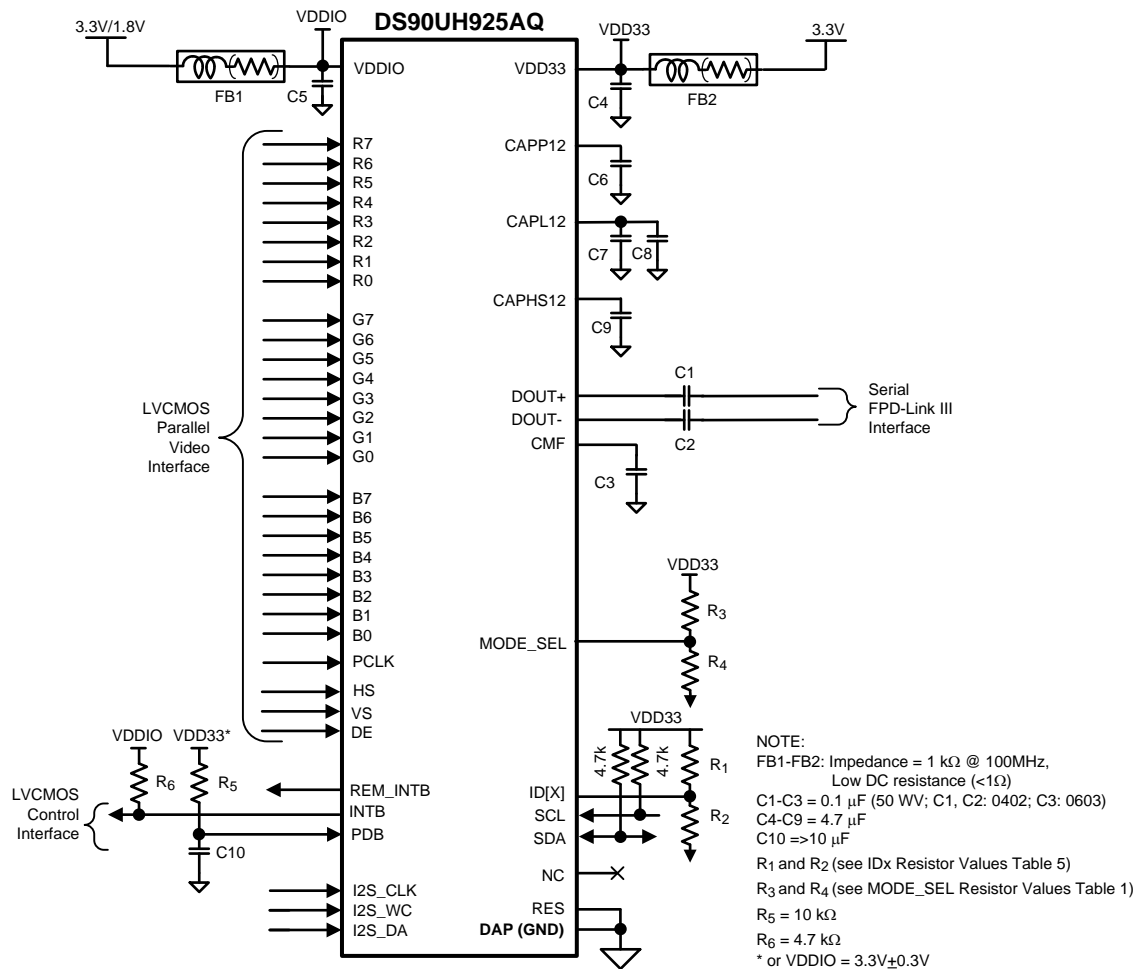

Figure 25. Typical Connection Diagram
Figure 25 shows a typical application of the DS90UH925AQ serializer for an 85 MHz 24-bit Color Display Application. The CML outputs must have an external 0.1 μ F AC coupling capacitor on the high speed serial lines. The serializer has an internal termination. Bypass capacitors are placed near the power supply pins. At a minimum, six (6) 4.7 μ F capacitors (and two (2) additional 1 μ F capacitors) should be used for local device bypassing. Ferrite beads are placed on the two (2) VDDs (V_{DD33} and V_{DDIO}) for effective noise suppression. The interface to the graphics source is with 3.3 V LVCMOS levels, thus the V_{DDIO} pin is connected to the 3.3 V rail. A RC delay is placed on the PDB signal to delay the enabling of the device until power is stable.